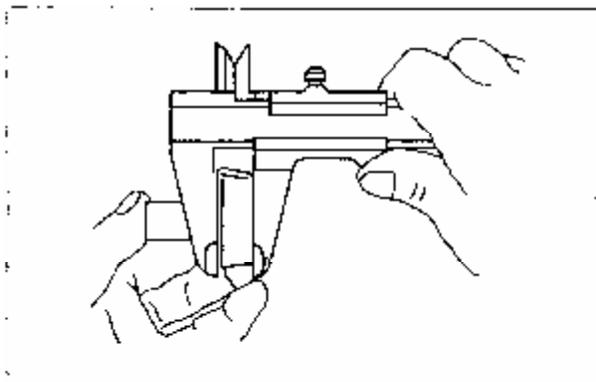

Figure 3-42 Check the Thickness of Chain Tensioner Rubber Damper
**3.4.7** Use a caliper to check the thickness of rubber damper. The damper is on the head of chain tensioner plug (see Figure 3-42). The nominal thickness is 15.0mm, and minimum thickness is 12.5mm.